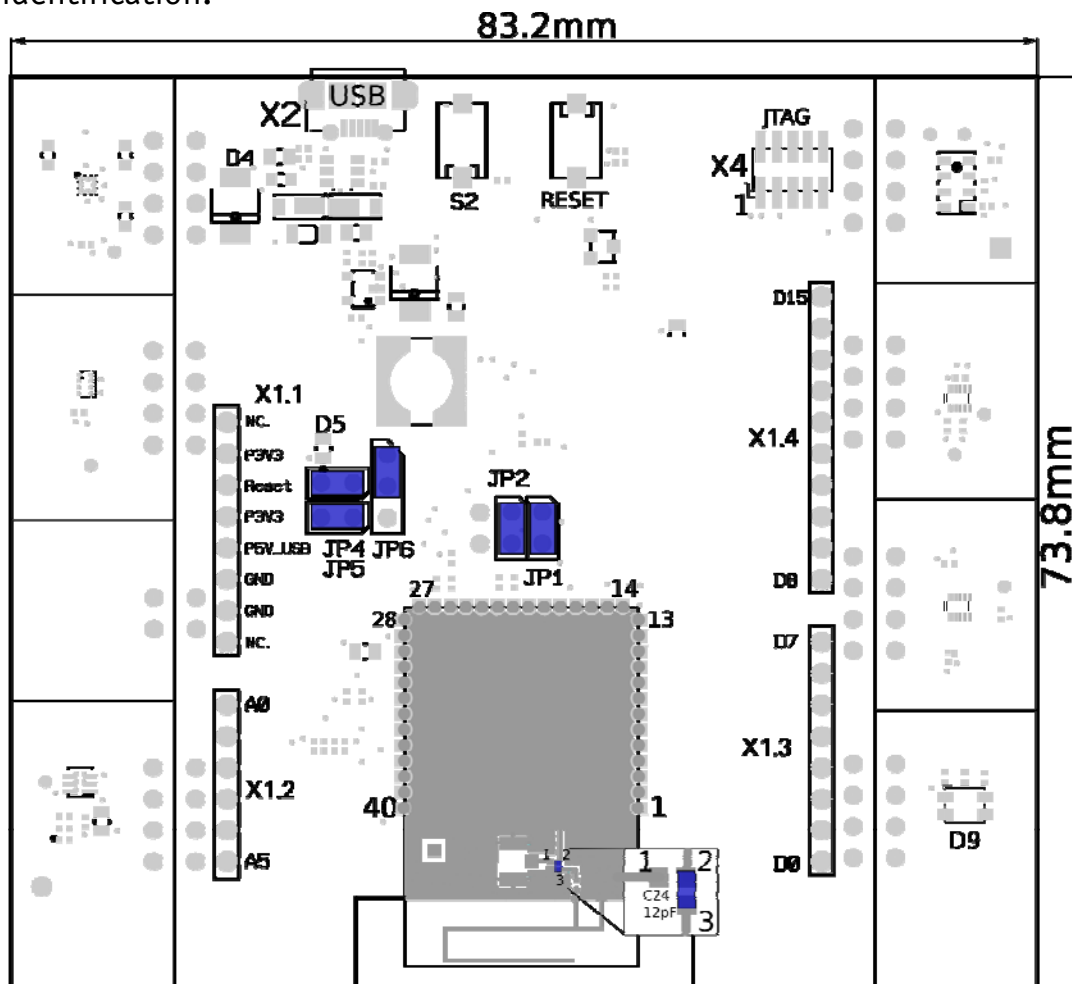
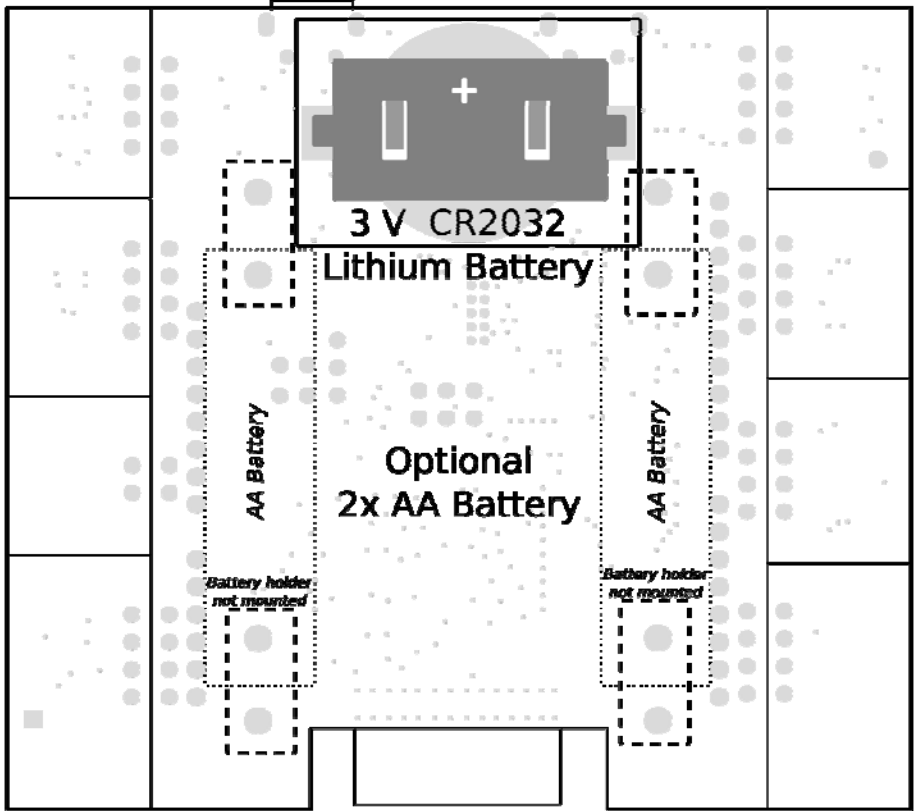

Figure 13: phyNODE Jumpers and Interfaces (top view)
Figure 14: phyNODE Jumpers and Interfaces (bottom view)
The phyNODE is depicted in Figure 13 and Figure 14. It features many different interfaces and is equipped with the components as listed in Table 3, and Table 7 to Table 8. For a more detailed description of each peripheral refer to the appropriate chapter listed in the applicable table. Figure 13 highlights the location of each peripheral for easy identification.
Table 7 gives an overview of all interfaces. Figure 13 and Figure 14 highlight the location of the connectors on the phyNODE.
Figure 13 shows the location of the LEDs. Their function is listed in the table below:
Figure 13 shows the location of the switches. Their function is listed in the table below:
2. a battery holder for either a CR2032MFR coin cell (BAT1), or two battery holders for two 3 V AA batteries (BAT2 and BAT3) (Figure 2 and Figure 14)
The red LED D5 right above jumper JP4 (Figure 13) indicates the presence of the 3.3 V supply voltage.